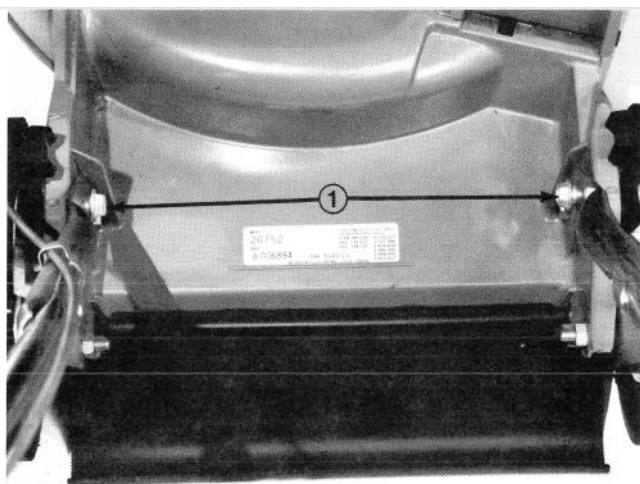

Figure 4
3. Check to insure bag door is forward of projections at rear of mower discharge chute (Fig. 4). Hold front of bag and bag door together to insure bag door stays closed and slide door opening frame over projections on outside of mower rear discharge chute (Fig. 5).